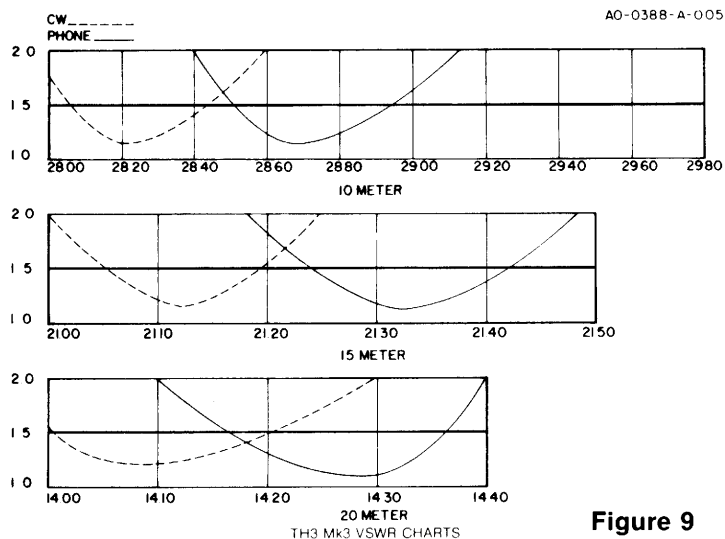

Figure 9
Determine which mode of transmission you will use—either phone or continuous wave (CW). Dimensions for both are shown, but only one mode must be used throughout the assembly of the antenna. Trying to use phone dimensions on one band and CW dimensions on another band will give less than optimum results on both. The typical VSWR charts shown in Figure 9 will help you to decide which mode is best for your use.